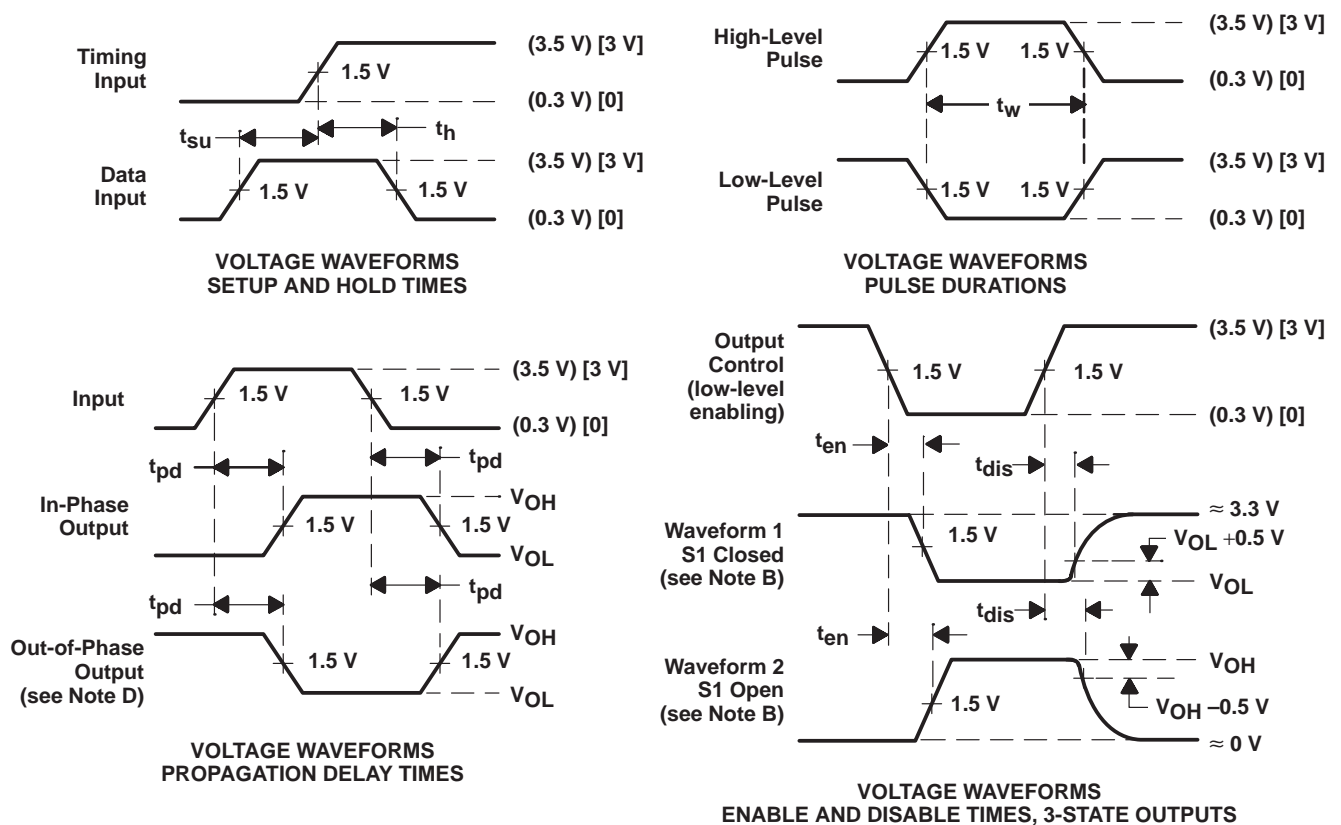

**Figure 5. fmax With External Feedback**
**fmax with external feedback, see Figure 5**